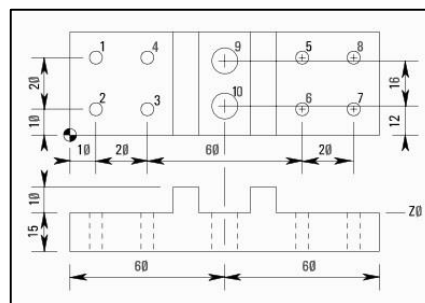

Figure 17: Drilling operation on the job.
8.1 Develop a Numeric code to create a hole of 5 mm diameter at various positions given below in figure 17.